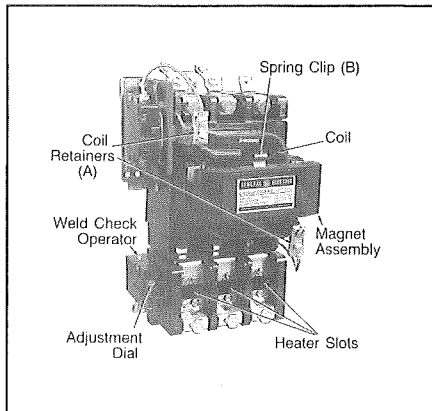

Figure 1.
8. The ultimate tripping current of the installed relay heater can be adjusted $\pm 10\%$ by using the adjustment dial, shown in Figure 1.
2. Press against coil while pulling up slightly on coil retainers (A—Figure 1) and move retainers away from coil.
4. Withdraw spring clip (B—Figure 1) and remove armature from movable arm.